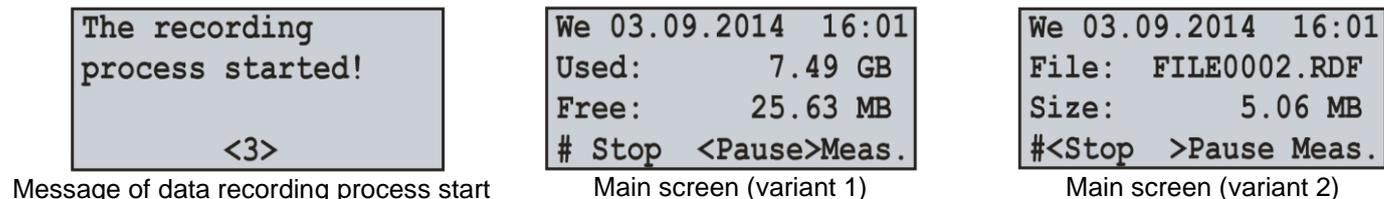

Figure 6.4 – Main menu view after start of data recording process
To start the process of data recording to the memory card it is necessary to select with the buttons ◀ (left) or ▶ (right) the menu item “Start”, then by pressing the button ◻ (enter) to confirm the choice, on the data logger display there will be a message confirming the beginning of the recording process (Fig. 6.4) and LED indicator **RECORDING** will be on (Fig. 1.2 item 2). After 3 seconds the main screen (Fig. 6.4) will be shown on the data logger display.
On the main screen there will be alternatively shown information of the free and occupied space on the memory card (Fig. 6.4 – Main screen (variant 1)), as well as the name and size of the last recorded file (Fig. 6.4 – Main screen (variant 2)).
To escape from the screen of measured values it is necessary to press the button **■** (enter), the display will go to initial view (Fig. 6.4 – Main screen).